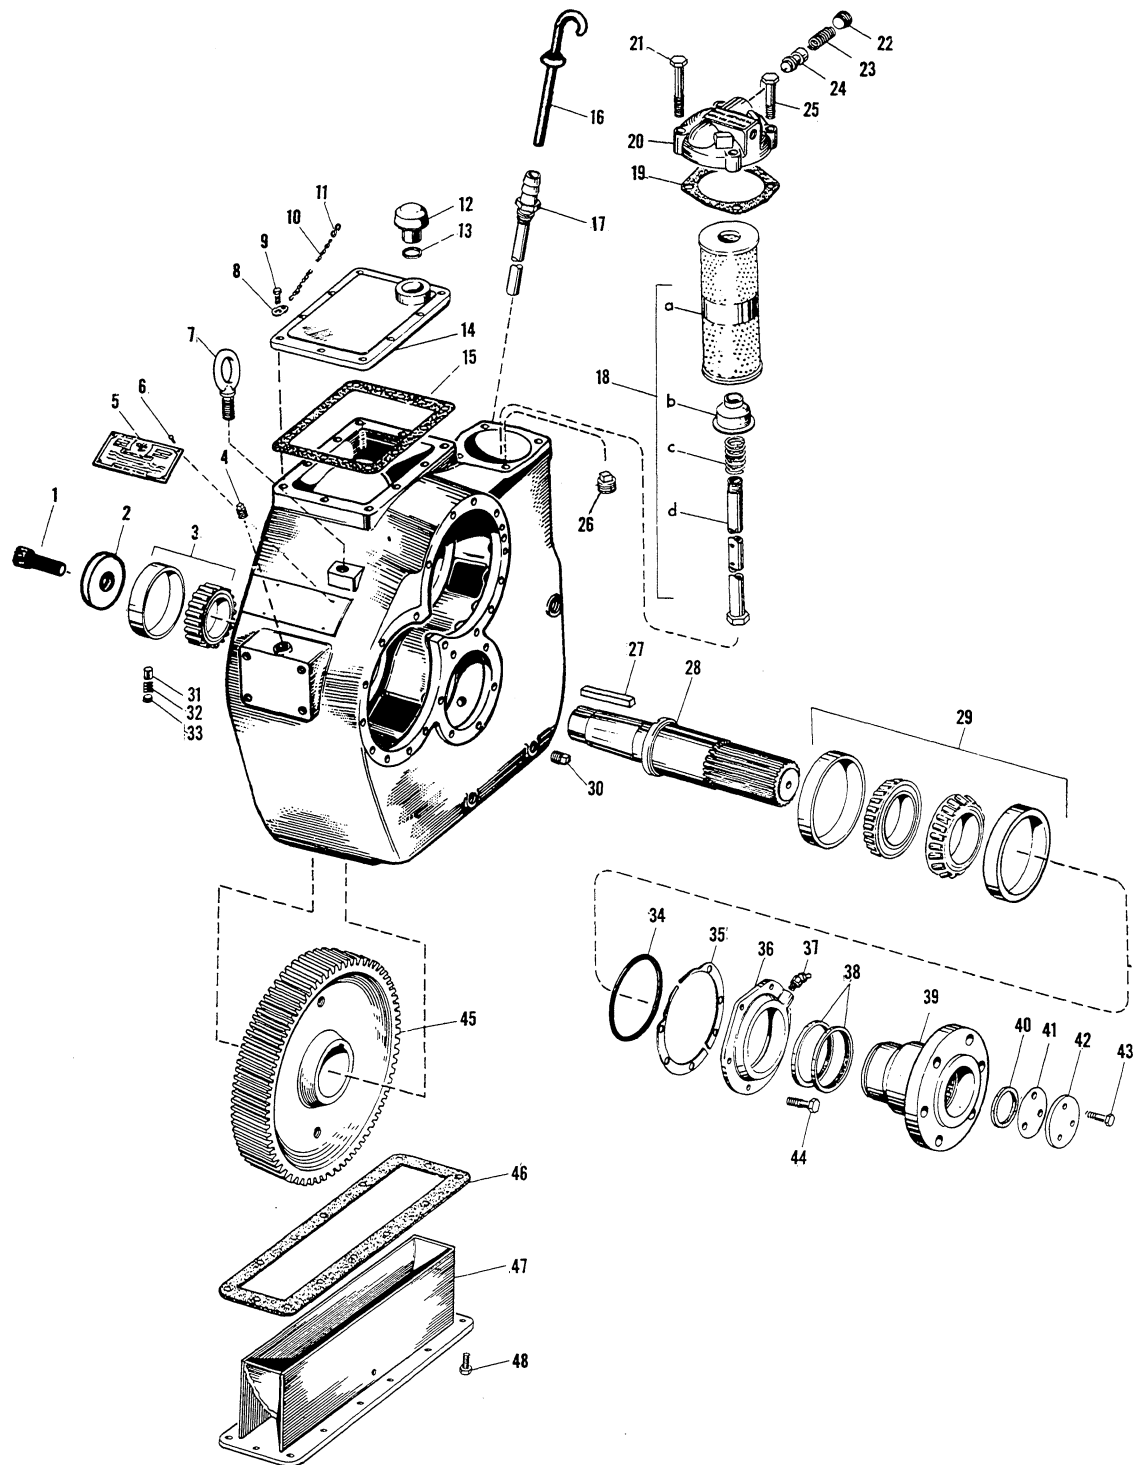

Figure 81. Output Shaft Group of Parts – Exploded View. (Shallow case shown).
* – This assembly also includes Item 39, Figure 81.